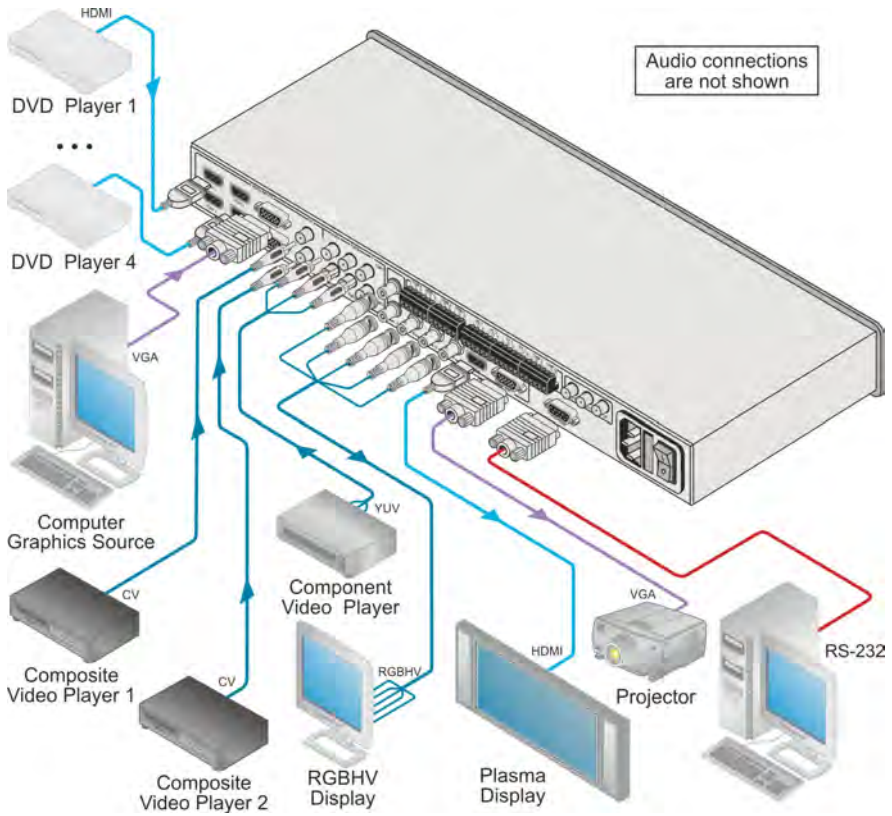

Figure 2: Connecting the VP-438 Presentation Switcher / Scaler
To connect¹ your **VP-438**, as illustrated in the example in Figure 2, do the following²:
5. Connect the audio input signals to the AUDIO INPUT terminal block connectors, as required (not shown in Figure 2).
9. Connect the audio output signals to the AUDIO OUTPUTS stereo analog audio acceptor and/or the digital audio acceptor, as required (not shown in Figure 2).
10. Connect the power cord⁴ (not shown in Figure 2).